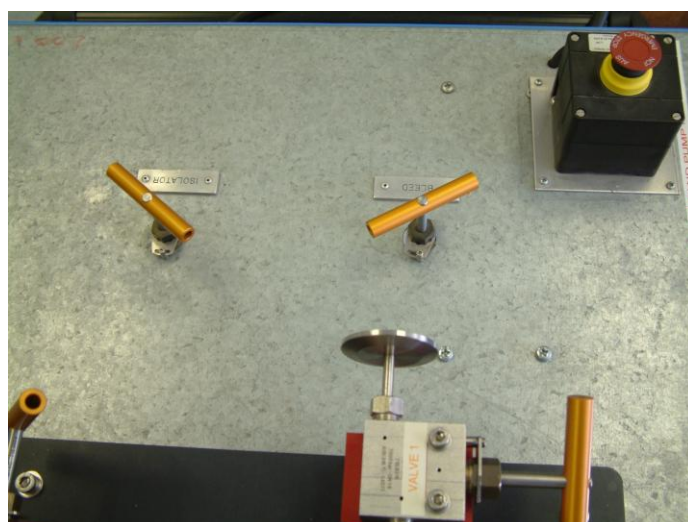
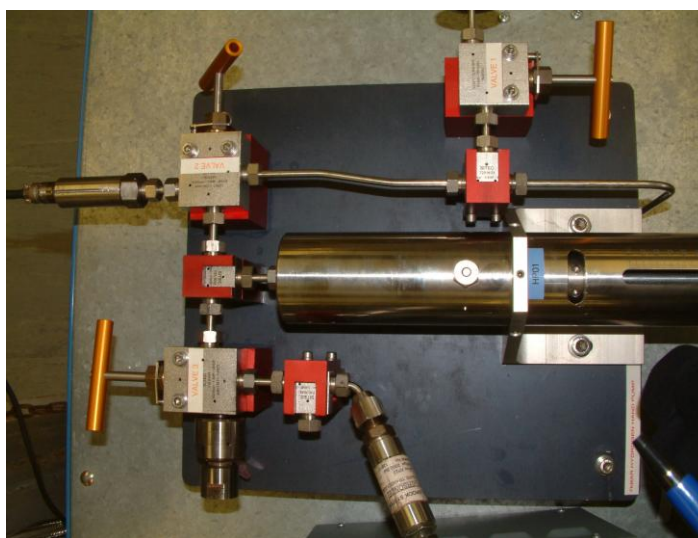

Fig 1
Fig 2
3. Connect the helium bottle to the gas inlet connection. Open the gas cylinder valve and let the helium into the system up to the closed isolator valve (see fig 1). Check that valve 1 (see Fig 2) is closed and that valve 2 is open and valve 3 is closed (see Fig 2). Then open the isolator valve slowly, this will allow the helium into the hand pump but not into the cell. Once this has stabilised you are now ready to use the diaphragm pump to increase the pressure.
5. Start the diaphragm pump and watch the pressure gauges as the pressure increases. The Diaphragm pump can increase the pressure up to 2750 bar. Once this pressure has been reached stop the diaphragm pump and close valve 2 (see Fig 2), then close the cylinder bottle valve to cut off the helium supply as this is no longer required and leaves the low pressure side of the system in a safe state.
6. Now that valve 2 (see Fig 2) and the cylinder bottle valve are both closed it is safe to increase the pressure by using the hand pump. Slowly wind the hand pump in a clockwise direction to increase the pressure stopping every 500 bar to check the system is stable and leak tight. If the system is leak tight continue winding the hand pump until you reach the desired pressure
7. When depressurising the system firstly wind back the hand pump in an anti-clockwise direction until the pressure is dropped off to about 2750 bar. It is now safe to open valve 2 (see Fig 2) and to equalise the low and high pressure sides of the rig. Once the two sides have equalised slowly open valve 1 (see Fig 2) to vent the helium from the rig.
10. Once the leak test has been carried out successfully the hydrogen can be let into the system up to the closed isolator valve (see Fig 1), then check the hydrogen bottle connection with snoop leak detection solution now the system is under bottle pressure as a secondary precaution (if you suspect the rig is leaking you must depressurise the system as stated in section 13 and re-pressure test with helium to find the leak).
11. Check that valve 1 (see Fig 2) is closed and that valves 2 and 3 are open (see Fig 2). Then open the isolator valve (see Fig 1) slowly, this will allow the hydrogen into the hand pump and into the cell. Once this has stabilised you are now ready to use the diaphragm pump to increase the pressure.
12. Start the diaphragm pump and watch the pressure gauges as the pressure increases. The Diaphragm pump can increase the pressure up to 2750 bar. Once this pressure has been reached stop the diaphragm pump and close valve 2 (see Fig 2), then close the cylinder bottle valve to cut off the hydrogen supply as this is no longer required and leaves the low pressure side of the system in a safe state.
13. Now that valve 2 (see Fig 2) and the cylinder bottle valve are both closed it is safe to increase the pressure by using the hand pump. Slowly wind the hand pump in a clockwise direction to increase the pressure stopping every 500 bar to check the system is stable and leak tight. If the system is leak tight continue winding the hand pump until you reach the desired pressure (if you suspect the rig is leaking you must depressurise the system as stated in section 13 and re-pressure test with helium to find the leak).
14. When depressurising the system firstly check that the extract system is still running, then ensure that the hydrogen bottle is isolated and then wind back the hand pump in an anti-clockwise direction until the pressure is dropped off to about 2750 bar. It is now safe to open valve 2 (see Fig 2) and to equalise the low and high pressure sides of the rig. Once the two sides have equalised slowly open valve 1 (see Fig 2) which should be connected to the spark proof extract system and vent the hydrogen from the rig at a controlled rate always checking that the extract system is still running.